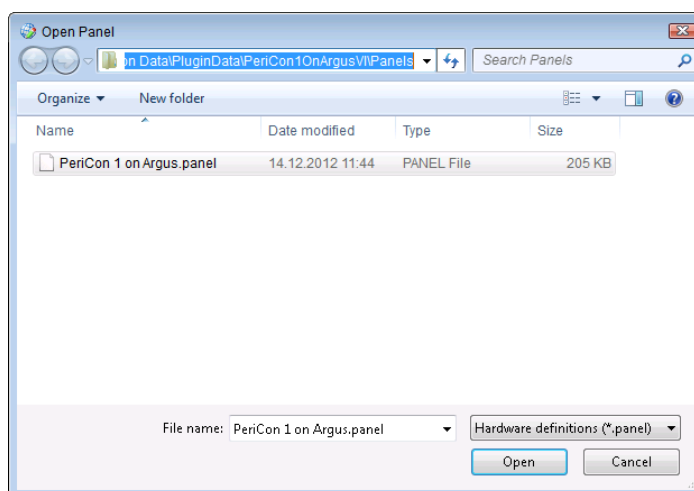

Figure 3-17. Open Panel dialog to select panel file
4. Browse to the folder C:\ProgramData\Thermo\Qtegra_Application Data\PluginData*<VIname>*\Panels, see Figure 3-17.